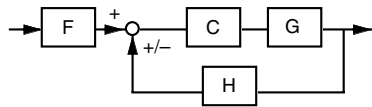

Figure M6.1.
- The SISO design tool supports a flexible block diagram, as shown in Fig. M6.1. The feedback can be either positive or negative. Similar to the LTI Viewer, the tool runs in its own functional space. We have to import the transfer functions under the File pull-down menu. By default, the transfer functions F , C , G , and H are all assigned the value “1,” so we have to import at least a transfer function for G to do meaningful calculations.
- The default compensator C in Fig. M6.1 is a proportional controller, but it can be changed to become a PI, PD, or PID controller. The change can be accomplished many ways. One is to retrieve the compensator-editing window by clicking on the C block or by using the Compensator pull-down menu. We can also use the set of button on the toolbar to add or move open-loop poles and zeros associated with the controller.